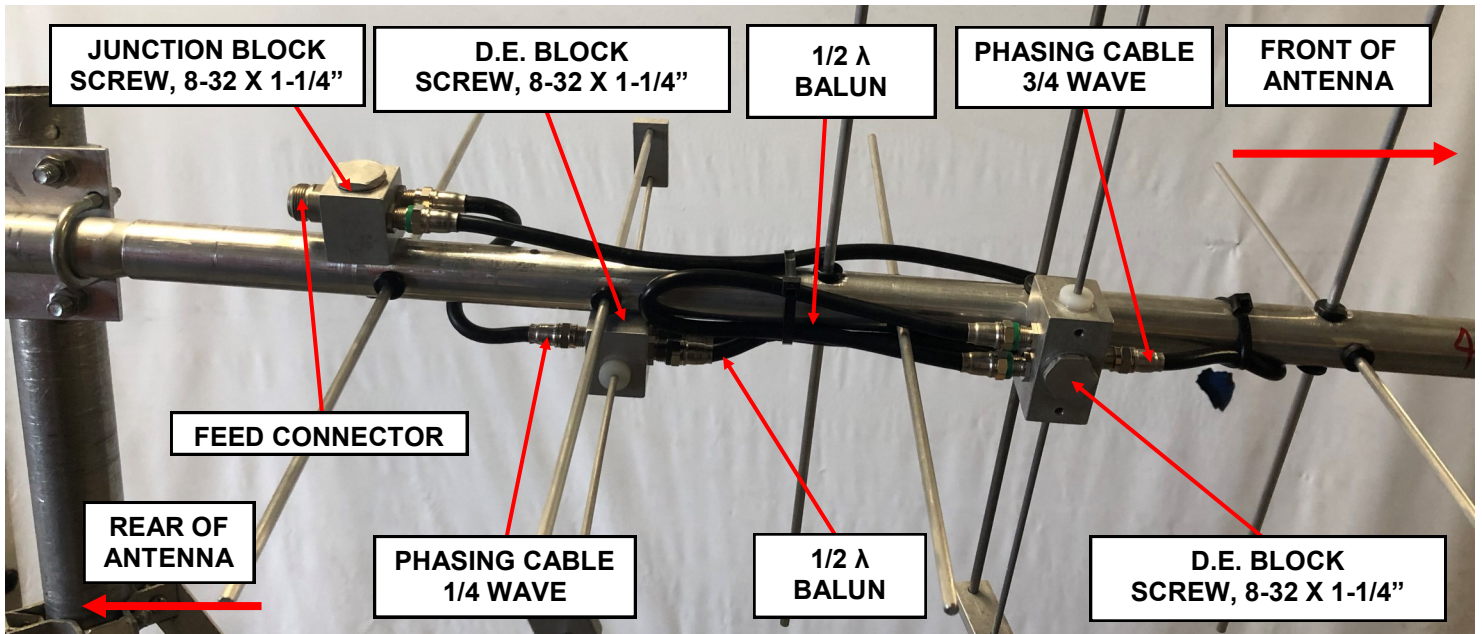

FIG. 3
6. Mount the JUNCTION BLOCK as shown on the Dimension Sheet. Secure with 8-32 x 1-1/4" screw. See FIG. 3 AND 4 for more information.